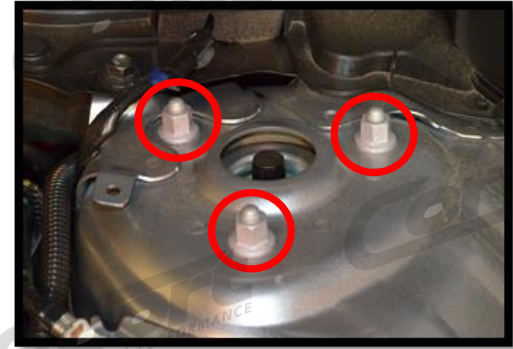

Figure 2g
- f) Remove the three (3) 14mm strut bolts holding the strut to the strut tower (shown in Figure 2g)
- o) Reinstall the strut and hand tighten the three (3) 14mm strut mount bolts (Figure 2g). Using a torque wrench and 14mm socket, tighten bolts to 37-43ft-lbs.